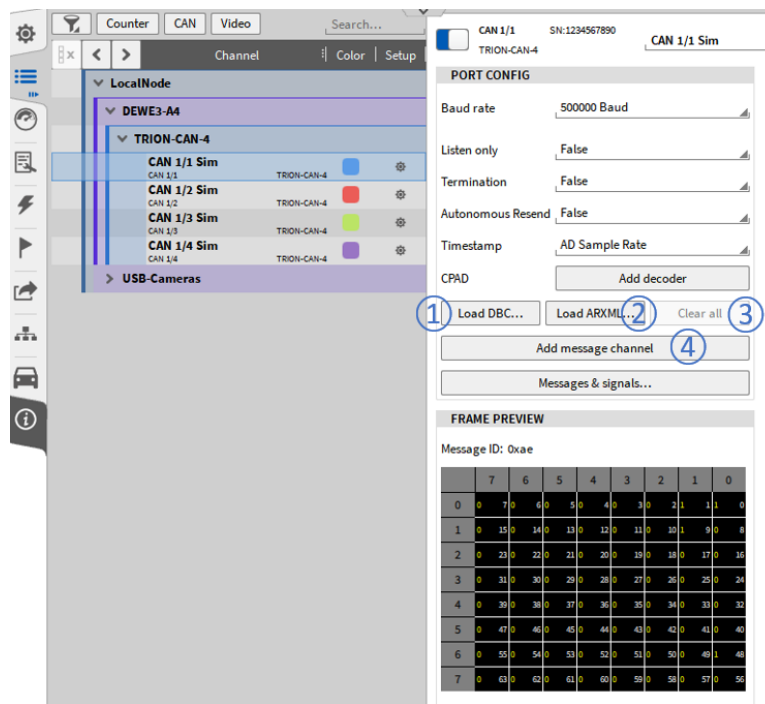

Fig. 7.190: Decoding CAN data
Thus, press *Load DBC...* (see ① in Fig. 7.190) or *Load ARXML...* (see ② in Fig. 7.190).
You can delete all decoded messages and channels by pressing the Clear All button the CAN port configuration (see ③ in Fig. 7.190).
If one or several messages available on the CAN bus should not be defined in the selected dbc- or arxml-file you can manually add them by pressing *Add message channel* (see ④ in Fig. 7.190) and defining the correct settings in the CAN message setup. More details can be found in CAN message setup.